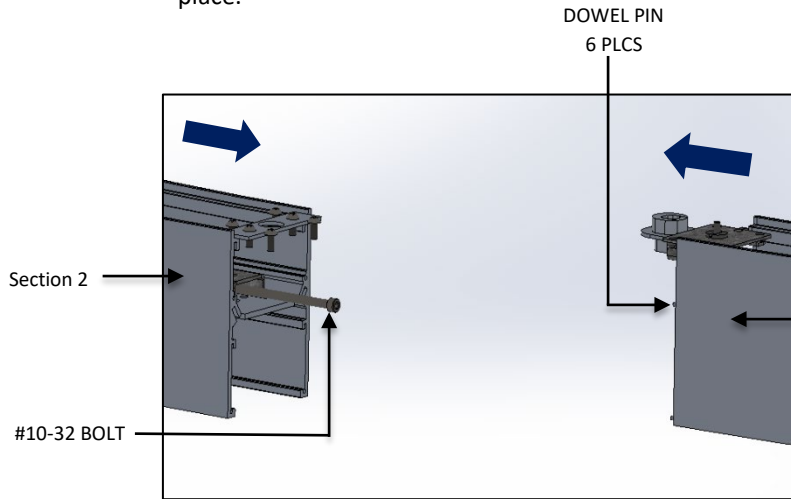

FIG. 19 – SECTIONS INSTALLATION
18. Connect two sections by lining up the dowel pins and pushing the sections together. Install the #10-32 bolt & nut and tighten as shown in FIG. 19. This pulls the reflectors together.